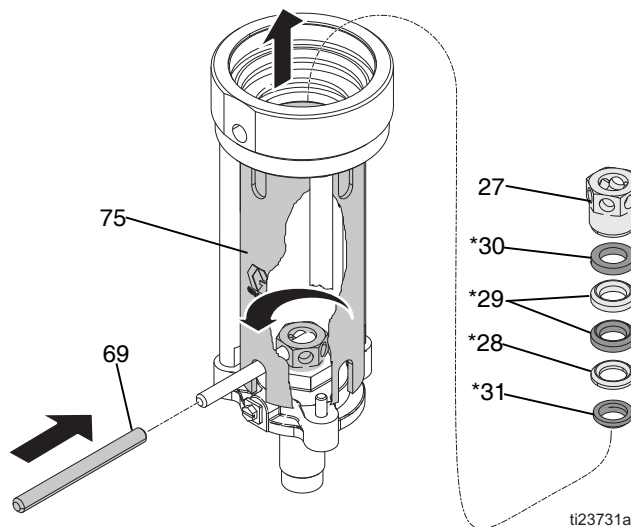

FIG. 25
13. Remove hex nut (27) from mounting flange (26). Remove female gland (30*), 2 PTFE packings (29*), male gland (28*) and wiper (31*). Inspect all parts for damage. See FIG. 25.